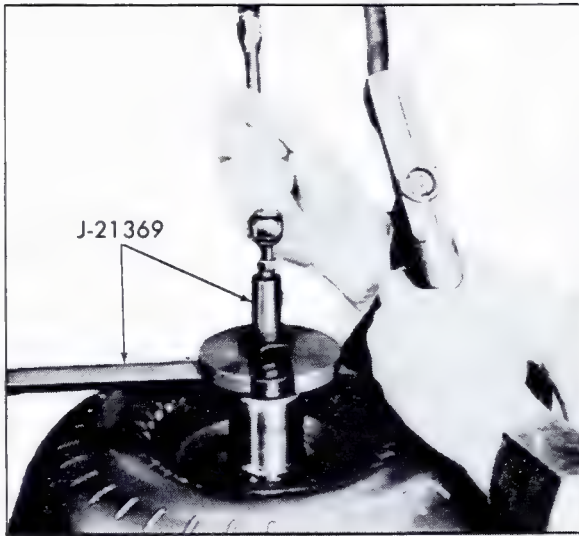

Fig. 7-42 Leak Checking Converter
4. Install leak test fixture band crosswise on converter so that slotted plate fits around valve and under nut. Fig. 7-42. Tighten nut to expand O-ring and secure a good seal.